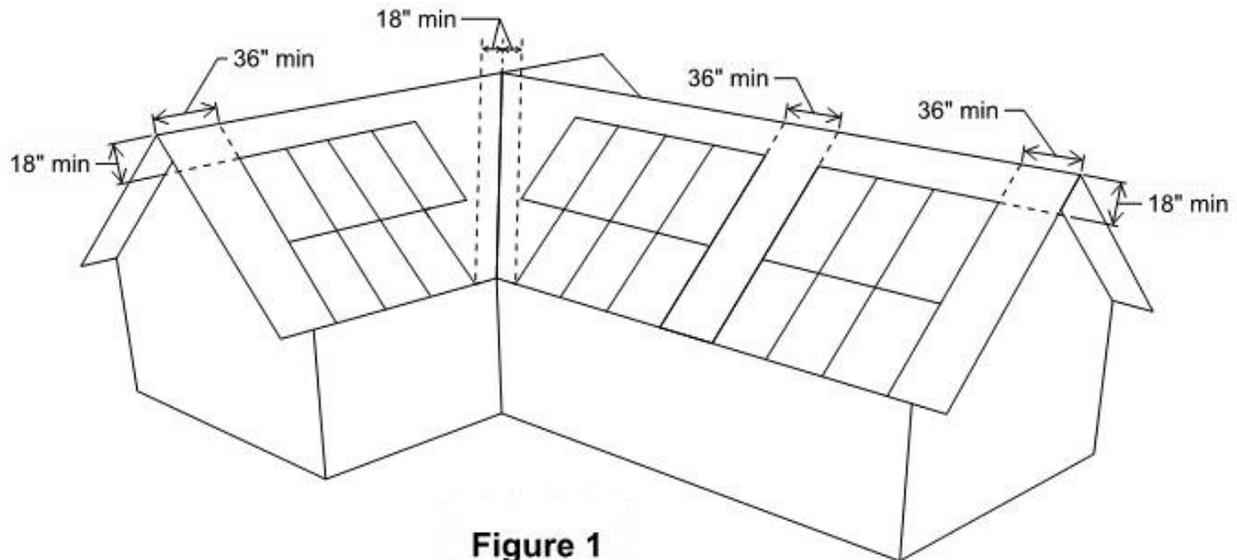

Figure 1
1. **Firefighter Accessibility-** Roof access points and pathways for firefighters are required. (See figures 1 and 2 on the following page)
3. **Limitations-** Each PV array is limited to one hundred fifty (150) feet in either direction.
4. **Separation-** Multiple arrays must be separated by a thirty-six (36) inch wide clear access pathway.
- I. Panels and modules on hip roofs must be located to provide a thirty-six (36) inch wide clear access pathway from the eave to the ridge on all roof sections containing solar equipment, except on roof slopes of 2:12 or less.
- II. Panels and modules on roofs with hips and valleys must not be located less than eighteen (18) inches from a hip or valley where solar equipment is to be placed on both sides of the hip or valley. Where panels or modules are only on one side of the hip or valley, they may be placed directly adjacent to the hip or valley, except on roof slopes of 2:12 or less.
- 6. Single ridge roof-** Panels and modules on roofs with a single ridge must be located to provide a thirty-six (36) inch wide clear access pathway from the eave to the ridge on all roof sections containing solar equipment, except on roof slopes of 2:12 or less.
- 7. Ridge clearance-** Panels and modules must be a minimum of eighteen (18) inches from the ridge to allow fire department ventilation operations. Panels may be located up to the ridge when the fire chief determines ventilation operations will not be used, or when the fire chief approves alternate ventilation methods.